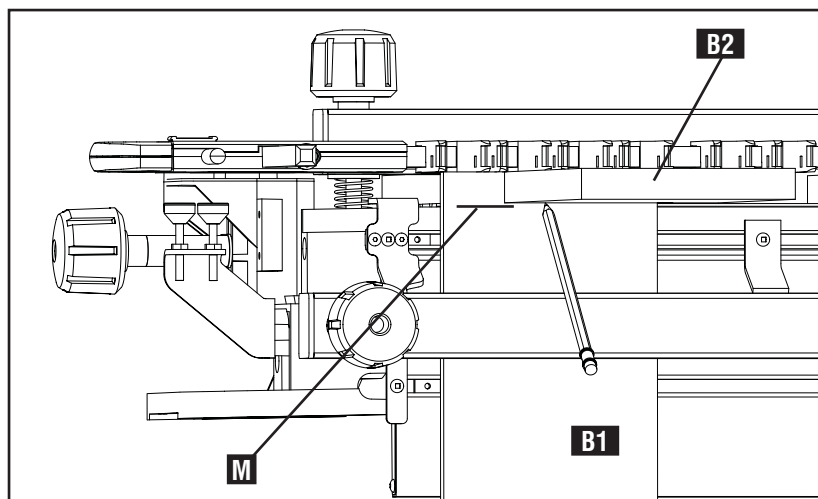
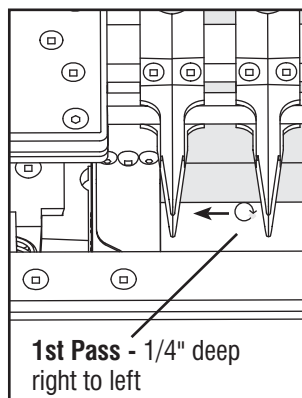
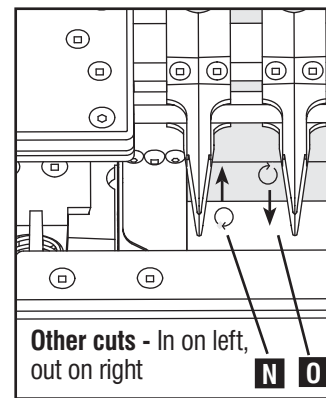
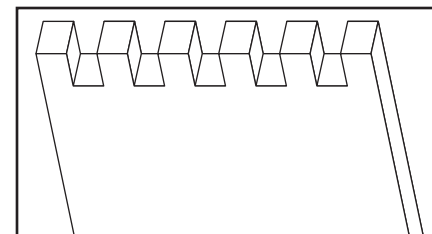

Fig. I9
Fig. I10
Fig. I11
Fig. I13
- 6 Your router bit depth should match the thickness of the second board you are cutting, or B2 (Fig. I9). This is the board that will be joined with the first board, B1.
7. To set router bit depth, mark a line (M) Fig. I9 on B1 using the thickness of B2, as shown.
8. Place router on template and set router bit depth to this line (M).
9. To reduce tearout, the first pass (Fig. I10) of each area to be cut should be from right to left. Only a light cut is required, no deeper than a 1/4" for example. For proceeding cuts (Fig. I11), the router should enter from the left (N) and exit from the right (O). continue until cutting is complete and the final cut should resemble Fig. I13.